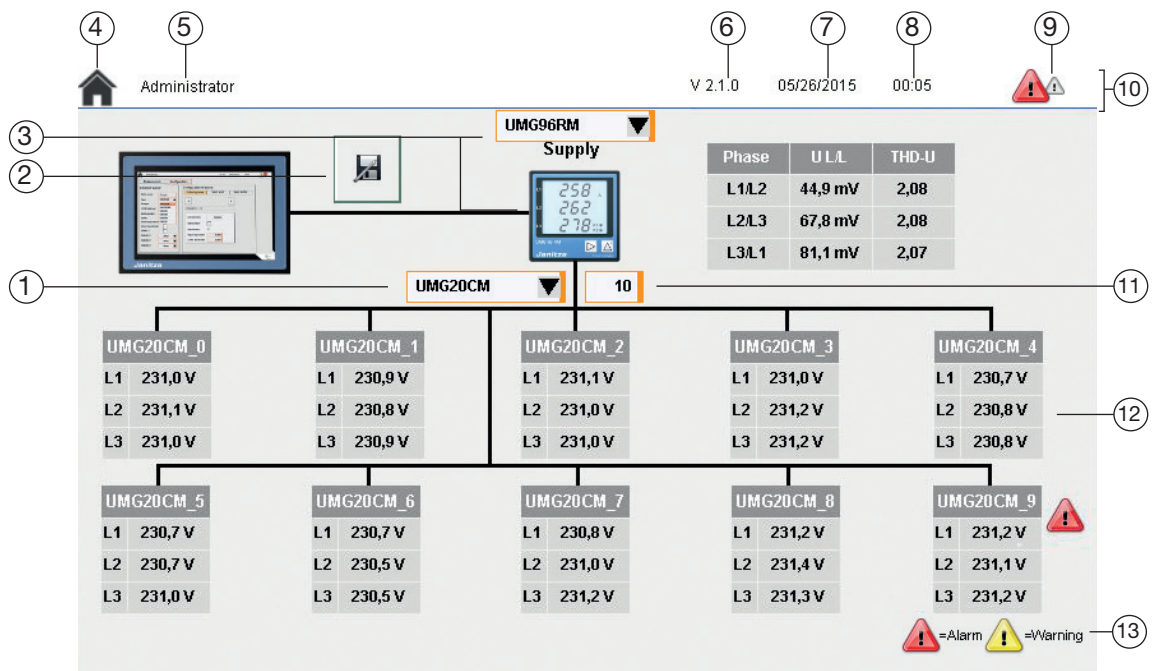

Fig. 11: Start screen
4. Touch the miniature representation of the master device (see Fig. 11) in order to open these settings.